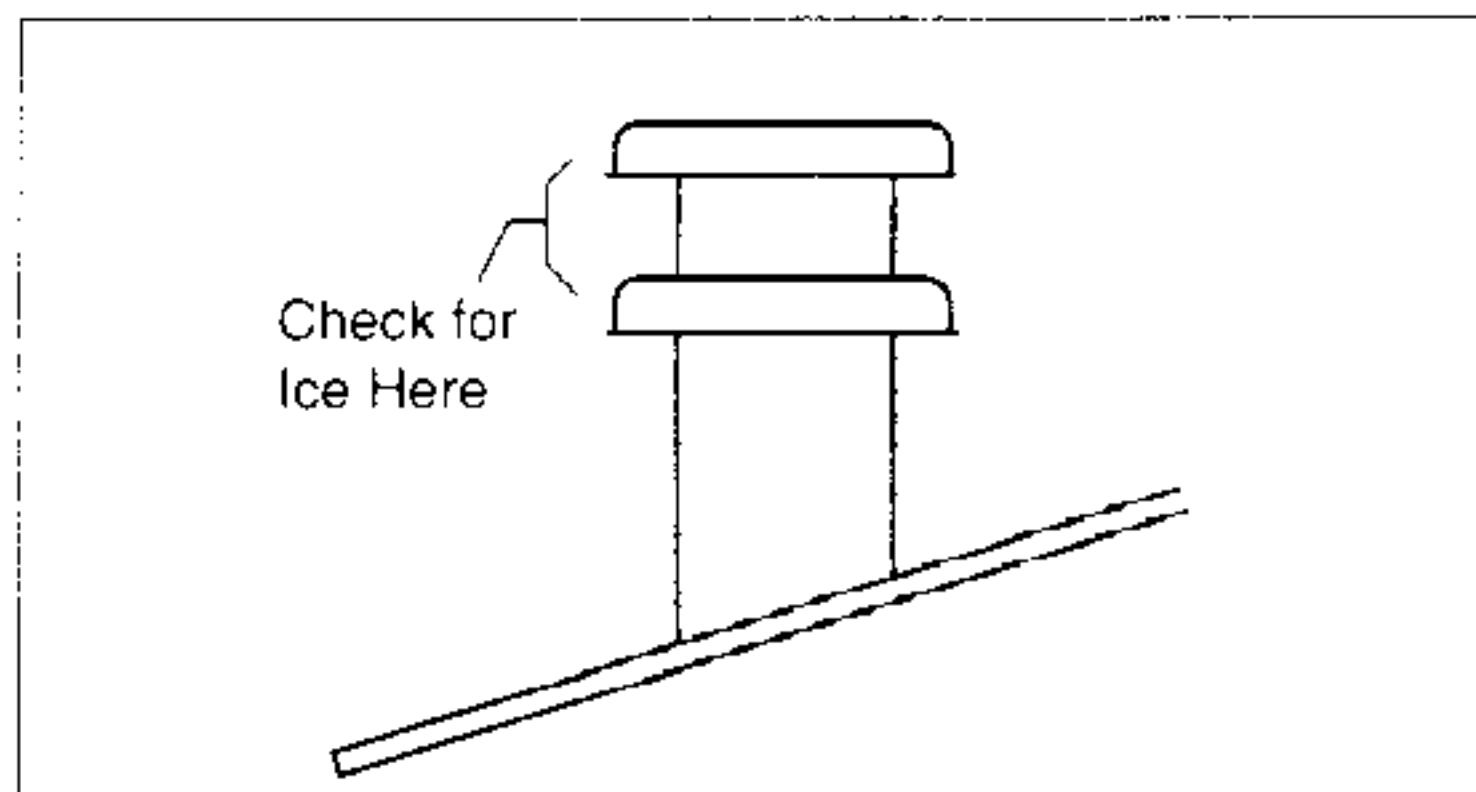

Figure 37. Roof Jack
3. Seasonal Service Information - During extremely cold weather, ice may form on the furnace roof jack. Small amounts of ice forming on the roof jack will present no problems to proper furnace operation. Excessive ice formation could restrict the combustion air supply to the burner, causing inefficient burner operation. If excessive ice has formed on the air inlet or exhaust portions of the roof jack, it must be carefully removed (Figure 37).